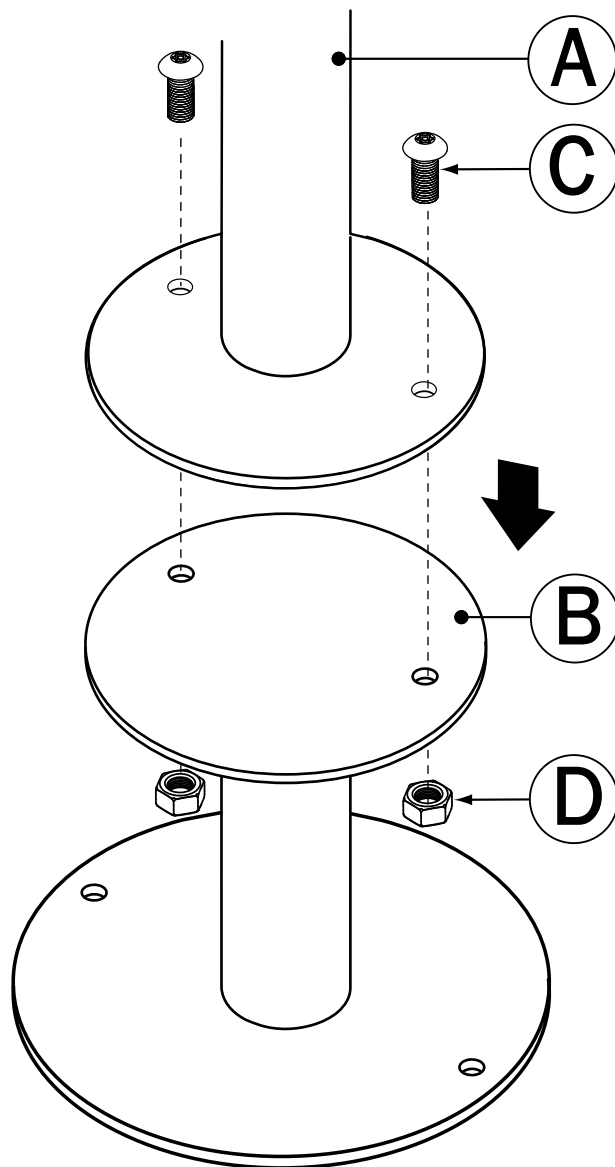

Figure 1.
2. Connect Extension Footer(B) to Lower Post(A) using (2) Bolts(C) and (2) Lock Nuts(D). See Figure1.